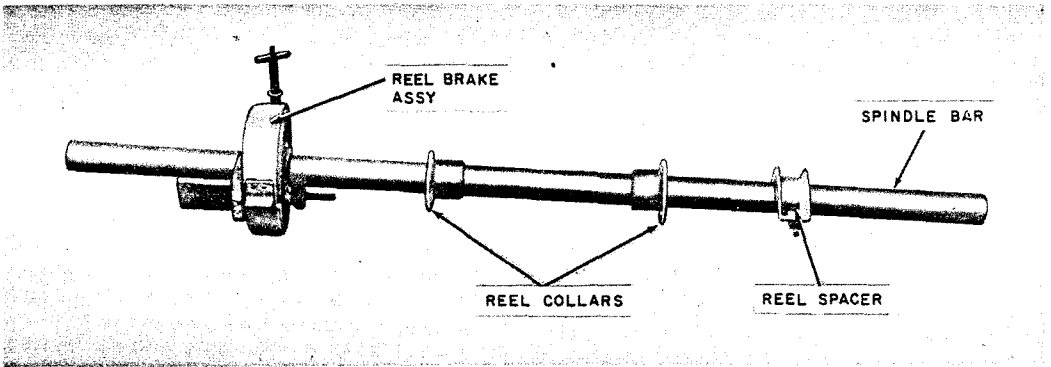
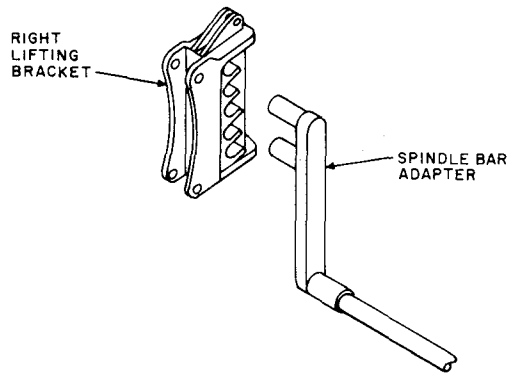

Fig. 5—Spindle Bar and Accessories
Fig. 7—Spindle Bar Adapter Assembly
**2.02** Accessory items include the reel brake assembly, reel collars, reel spacers, and spindle bar shown in Fig. 5 and 6. A spindle bar adapter assembly (Fig. 7) is available for handling small reels. The assembly consists of adapters with studs that fit into the regular spindle bar carrying brackets and includes a spindle bar for use with the adapters. The adapters position the spindle bar several inches lower than the normal spindle bar height to permit loading and carrying small diameter reels.